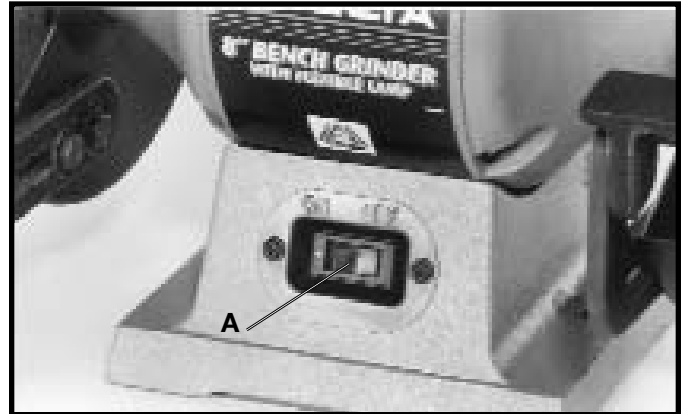

Fig. 14
The switch (A) Fig. 14, is located on the front of the grinder. To turn the grinder "ON" push the left hand portion of the switch, and to turn the grinder "OFF" push the right hand portion of the switch